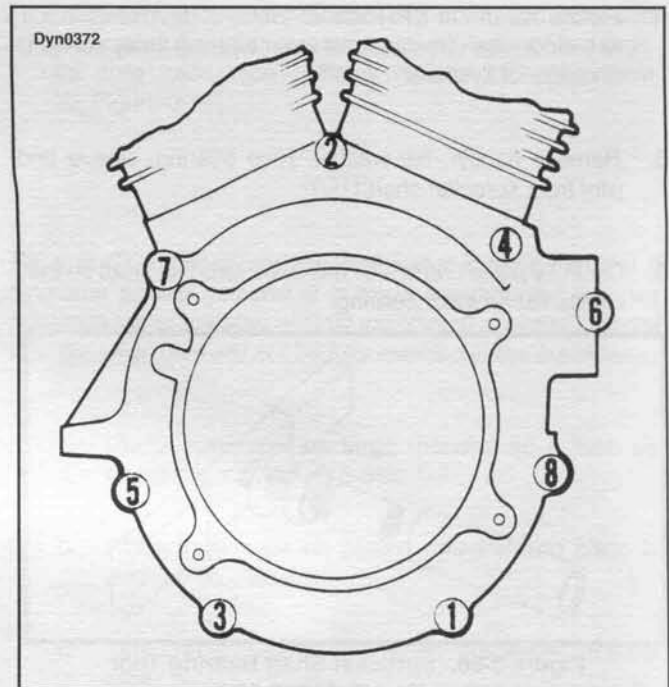

Figure 3-88. Crankcase Torque Sequence
- See Figure 3-88. First tighten to 10 ft-lbs (14 Nm) in the sequence shown, starting with #1.